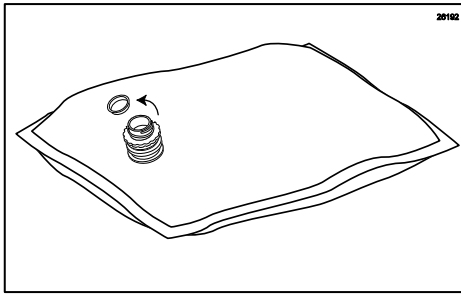

Figure 158
3. Select the syrup flavor you wish to use, then place the bag on the table with the fitment up and remove the dust cap. (See Figure 158.)